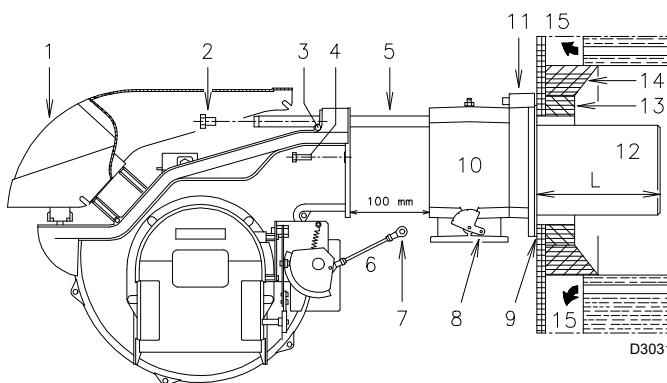
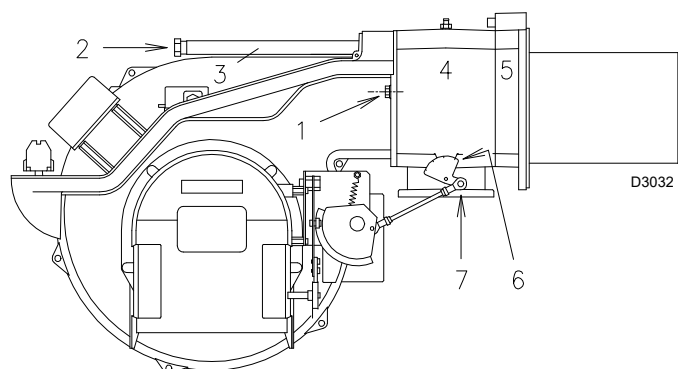

Fig. 12
Fig. 18
For boilers with a water-cooled front piece, a refractory lining 13)-14)(Fig. 12) is not necessary, unless expressly requested by the boiler manufacturer.
- Separate the combustion head from the rest of the burner (Fig. 12):
Once this operation has been carried out (if it was required), secure the flange 11)(Fig. 12) to the boiler plate, interposing the thermal insulating screen 9)(Fig. 12) supplied with the burner.
Once you have finished setting up the head, refit the burner to the slide bars 3)(Fig. 18) at approximately 100 mm from the sleeve 4)(Fig. 18) - burner positioned as shown in Fig. 12 - insert the flame detection probe cable and the ignition electrode cable and then slide the burner up to the sleeve so that it is positioned as shown in Fig. 18.
Refit screws 2)(Fig. 18) on slide bars 3)(Fig. 18).
Secure the burner to the sleeve by tightening screw 1)(Fig. 18).
Reconnect the articulation 7)(Fig. 18) to the graduated sector 6)(Fig. 18).